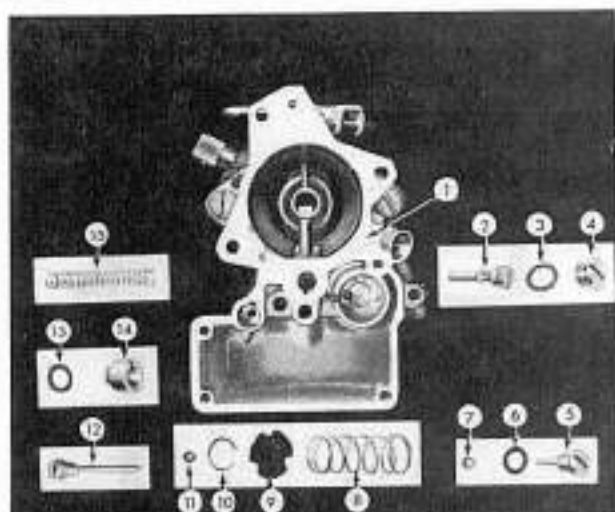

FIG. 402
To disassemble the main carburetor body (1, Fig. 402), remove the vacuum piston spring (15) and accelerating pump spring (8). Then remove the accelerating pump strainer (9) and, using Retainer Ring Removing Tool T-109-56, remove the accelerating pump inlet check ball retainer ring (10). Turn the carburetor body upside down to remove the inlet check ball (11).
Using Jet Wrench J-816-6, install the metering rod jet (4, Fig. 402) and new gasket (13); and using Jet Wrench J-816-1, install the low speed jet (12).